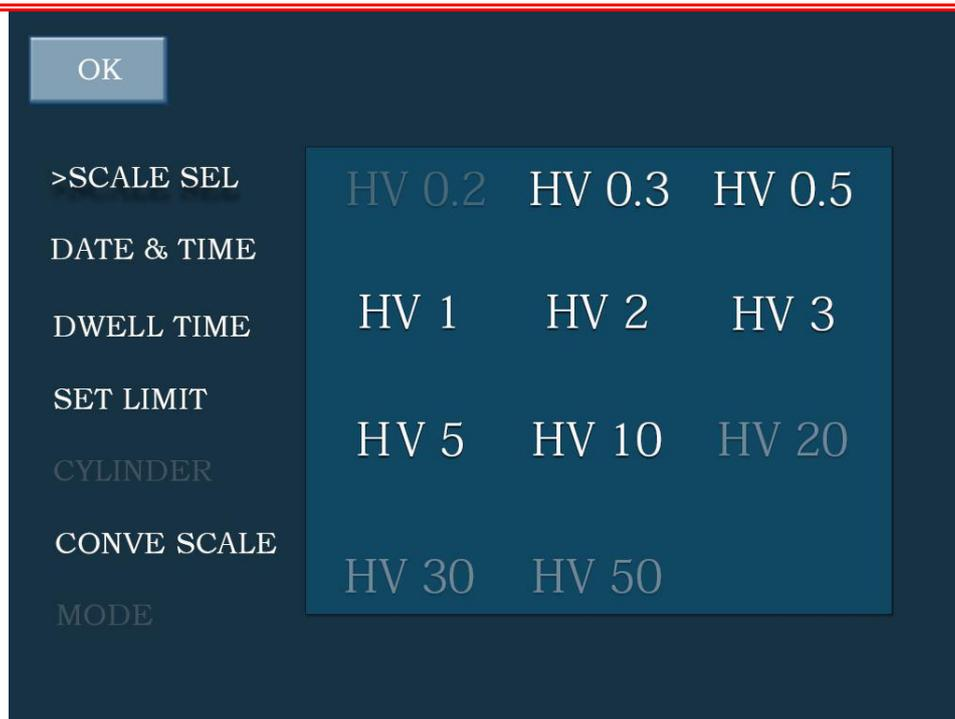

Fig 11
4.8 Test force Selection Page (Figure 11)